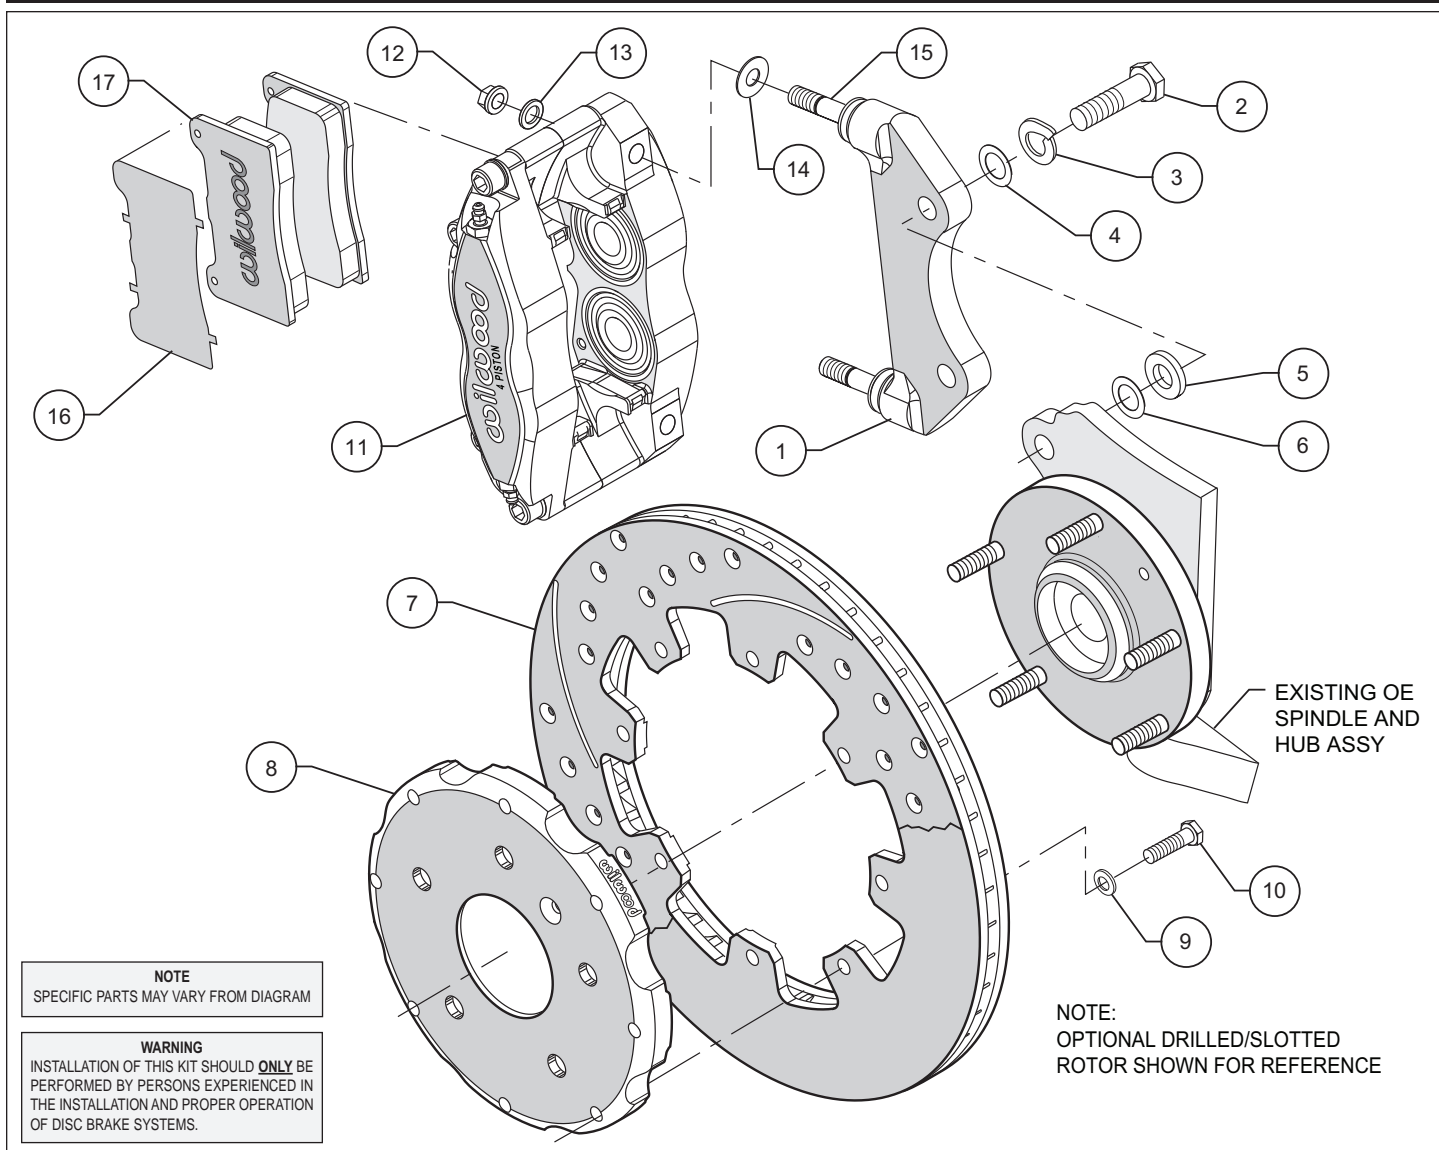
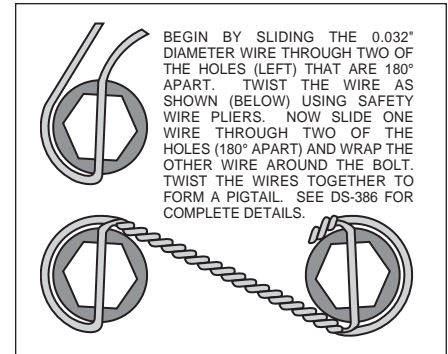

Figure 1. Typical Installation Configuration
Figure 3. Safety Wire Diagram
- The caliper mounting bracket assembly (1) should be installed first with clean, dry threads on the mounting bolts. Install the bracket from the rear side of the spindle by sliding bolts (2) through lockwasher (3) and flatwasher (4). Place spacer (5), and washer (6) between the bracket (1) and the backside of the spindle (see Figure 1). The bracket must tighten squarely against the side of the spindle body. Inspect for interference from casting irregularities, machining ridges, burrs, etc. Use one thin shim (6) between the spacer and spindle during initial trial fitting.
•With the larger I.D. side of the rotor (7) facing away from the hat (8), attach rotor (7) to hat (8) using washers (9) and bolts (10) as shown in Figure 1. Using an alternating sequence, remove bolts one at a time, apply red *Loctite*® 271 to the threads, and torque to 120-144 in-lb. Safety wire bolts (10) using standard 0.032 inch diameter stainless steel safety wire as shown in Figure 3. Please refer to Wilwood's data sheet DS-386 (available at www.wilwood.com/pdf/ds386.pdf) for complete safety wire installation instructions. Slide the rotor/hat assembly onto the axle hub. Install three lug nuts (finger tighten) to keep the rotor/hat assembly in place while continuing with the installation.
•**NOTE:** Please reference the caution statement at the beginning of the assembly instructions. Install one shim (14) over each pre-installed stud (15) on the radial mount bracket (1). Slide the caliper (11) in place over the studs and rotors and install the washer (13) and lock nut (12) to hold the caliper in place. Snug the lock nuts (12) and check that the rotor (7) is centered in the caliper (11). Add or subtract .015" shims (6) as necessary between the spacer and the spindle to center the caliper (7).
•Remove the caliper quick-clip pad retainer from the caliper. Remove the protective material from the adhesive side of the anti-squeal shims (16) and place against the backing plate side of the brake pads (17) utilizing the contour of the backing plate as a guide. Secure material to backing plate by bending the four tabs over the edge of the backing plate. Slide the brake pads (17) with the shims into place. They should install easily without interference. Check that the outside radius of the brake pad is aligned with the outside diameter radius of the rotor face. Add or subtract shims (14) between the caliper and mount bracket to gain the proper alignment. Reinstall the quick-clip pad retainer.
•Once all clearances have been checked, remove the wheel, caliper, hat, and rotor from the spindle and hub. Secure the caliper mounting bracket (1) to the spindle using red *Loctite*® 271. Torque the bolts to 47 ft-lbs. Reinstall the hat and rotor assembly and again use several lug nuts to hold it in place. Lubricate caliper mounting studs and nuts with lightweight oil, reinstall the caliper, torque the caliper nuts (12) to 30-35 ft-lb.